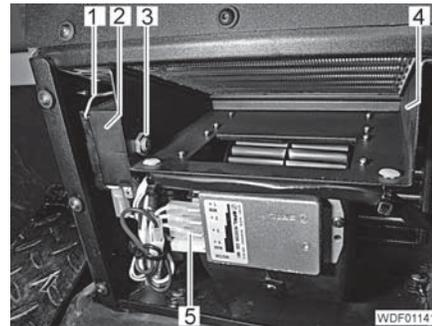

Fig. 428 Connections of the heater blower
- Remove the plug (Fig. 428,5) from the heater blower.
- ▷ The sensor tube (Fig. 428,1) must not be bent or damaged.
Do not disconnect the temperature switch (Fig. 428,2) of the air-conditioning unit (if it exists) from the sensor tube.
- Unscrew the nut (Fig. 428,3).
- Carefully place the temperature switch (Fig. 428,2) to one side.
- Carefully remove the heater blower (Fig. 428,4) from above at the back.
- Carefully insert the heater blower (Fig. 428,4) from above at the back.
- Carefully place the temperature switch (Fig. 428,2) into position.
- Screw the nut (Fig. 428,3) onto the temperature switch and tighten it.
- Attach the connector (Fig. 428,5) to the connections of the heater blower.